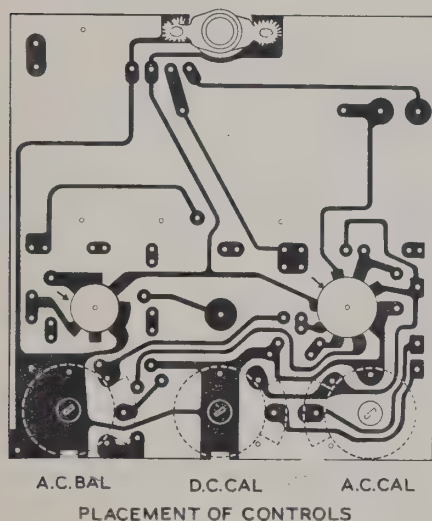

Figure 7
- (✓) Mount the three special type 10 K $\Omega$  controls from the screened side of the board so the mounting lugs and terminals protrude through to the foil side. See Pictorial 2 and Figure 7. Press the controls firmly against the board and solder the mounting lugs and terminals to the foil pattern. One mounting lug of the A.C. CAL. control cannot be soldered to the foil, so bend the lugs slightly inward in order to hold the control securely.